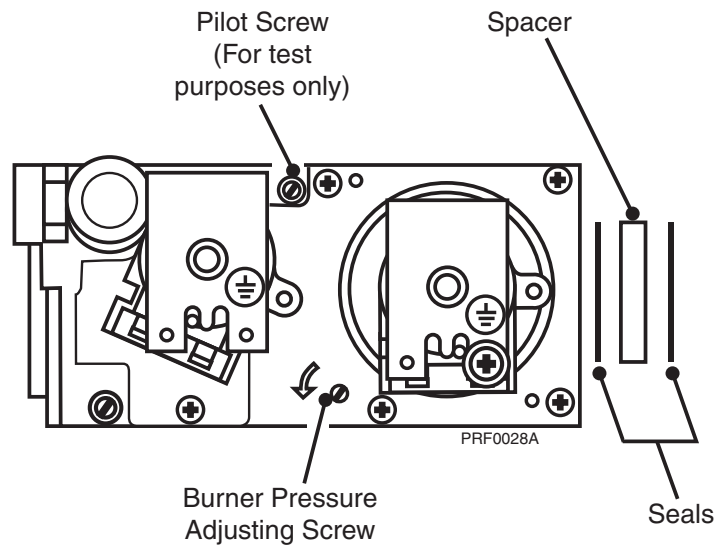

Fig. 26
- A. Check that the pilot screw Fig. 26, is fully open (turn anti-clockwise).
Note: A spacer is used between the valve outlet and the burner flange, requiring the use of two seals at this point. See Fig. 26.